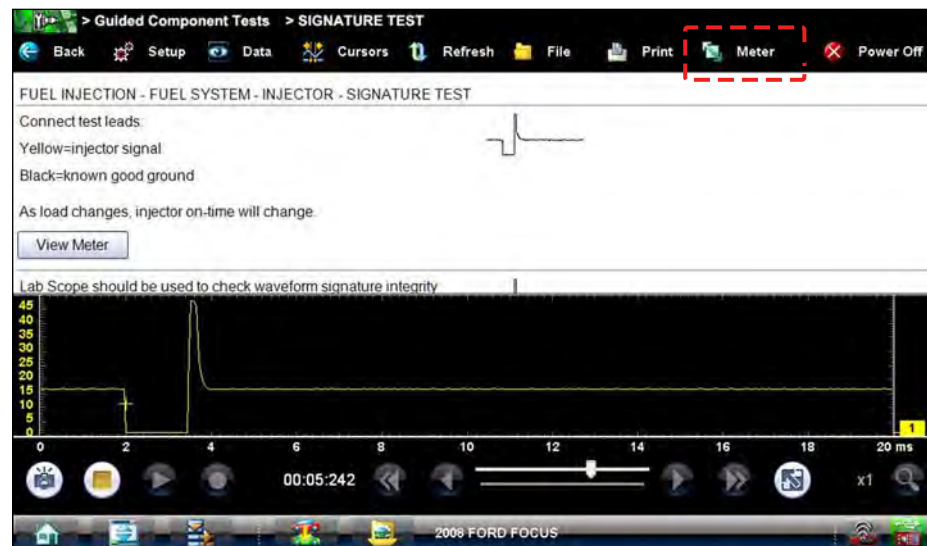

Figure 7-10 Sample view meter window
- **View Meter**—opens a live meter set up to perform the test in the lower portion of the screen (Figure 7-10). Once the meter view is open, the Guided Component Test toolbar at the top of the screen is replaced by the Scope Multimeter toolbar, which allows you to make adjustments to the settings. See Scope Multimeter Toolbar on page 108 for details.
A Meter icon, which is only available in the Guided Component Test view meter mode, appears on the upper toolbar (Figure 7-10).
1. With View Meter active (Figure 7-10), select the **Meter** icon on the toolbar once and the meter expands to fill the entire screen.
3. Select the **Meter** icon a third time to close the separate window and return to the standard meter view as shown in Figure 7-10.